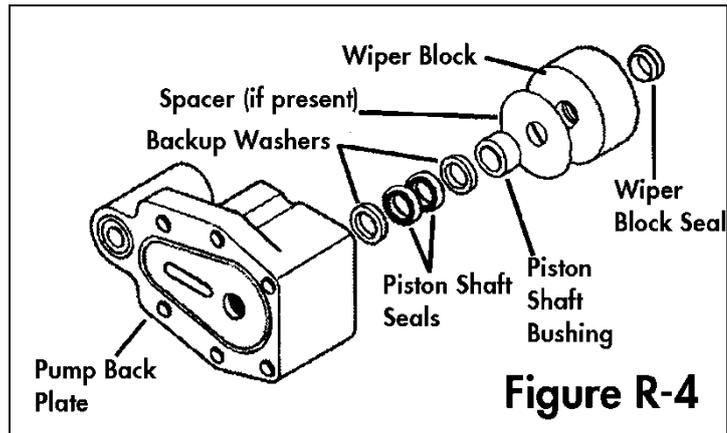

Figure R-4
8. Remove the wiper block from the pump back plate, and use a pair of needle-nose pliers to pull the old wiper block seal out of the wiper block. Remove the spacer washer, if present. Working from the side of the back plate that faces the pump body, use a flat-ended tool or a small socket on an extension to press out the two backup washers, two piston shaft seals and shaft bushing from the back plate. Refer to **Figure R-4**. This completes the disassembly of all user-serviceable parts of the Katadyn PowerSurvivor 80E watermaker.